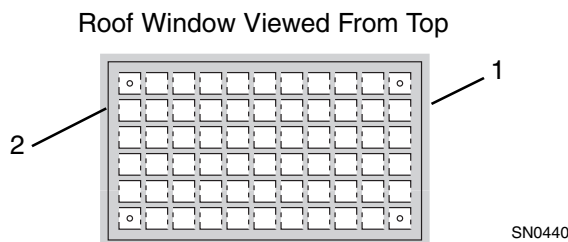

Figure 9-56 Top Window Positioning
- c. Use a suitable cleaner (DO NOT use ammonia based window cleaner) to clean the underside of the glass and the roof surface (Fig. 9-56, 1) of the replacement Operator's Protective Structure, approximately 1" around outside of cut-outs (2). Be sure all grease or oil is removed from the structure and glass.
- d. Position the roof window (Fig. 9-56, 1) on top of the replacement Operator's Protective Structure, centered over cut-outs (2) and mark its location around the entire glass.